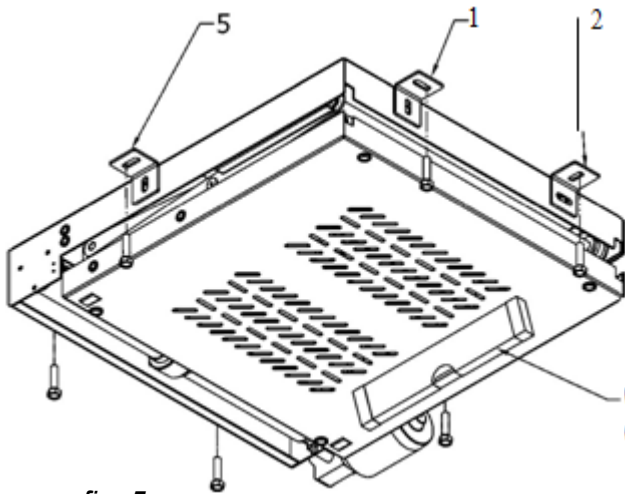

fig. 5
3. Using concrete pegs mount the lift on the sealing. The lowered section of your lift should be placed centric in regards to the opening. If your ceiling is not perfectly flat, use additional holes (fig. 5).